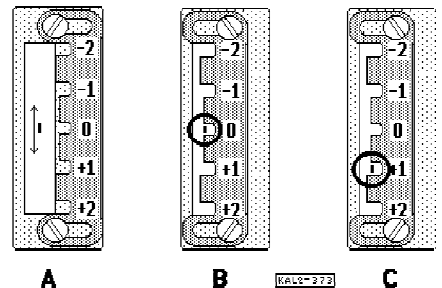

Fig. 7: Calibration gauge, B40 viewed from the right
- (7) calibration gauge, movable, with five calibration settings: $x(-2)$, $x(-1)$, 0, $x1$, $x2$. The gauge is mounted on the side and cannot be seen in the illustration (see Fig. 7).
- (8) mounting rod for securing to laboratory stand (150 mm long, 8 mm dia.). In the position shown the rod is screwed into the side of the central carrier. It can also be inserted from the back into a thread (M5) provided for this purpose.
- (9) connecting cable to bridge amplifier.
- (10) plastic protection frame with printed help information and data of the B40. The serial number is engraved (top right).
- (11) centre plastic body (opaque white) as carrier. The adapter circuit is arranged underneath the plastic cover on the right side.
- (12) thread clip for attaching the tension thread and for simple adjustment of its length.
- (13) vernier height control (option). The vernier control permits accurate up and down adjustment of the lever transducer. It serves for accurate and simple adjustment of the zero.
- (14) mounting rod on the experimental apparatus. The vernier control (13) must be clamped by means of the knurled screw at the side.
The B40 transducer is fitted with a device to permit simple calibration. A sliding metal gauge with 5 calibration slots (-2, -1, 0, +1, +2) is arranged close to the end of the lever which protrudes on the right from the Plexiglass frame. **Fig. 7** shows this gauge in three different positions (when viewed from the right looking on the transducer). In Position (A) the gauge is moved to one side. This is the normal position for measurement; the lever (H) can move freely. In positions (B) and (C) the gauge has been moved forward to the calibration position. The lever is in one of the calibration slots (B=0, C=+1).